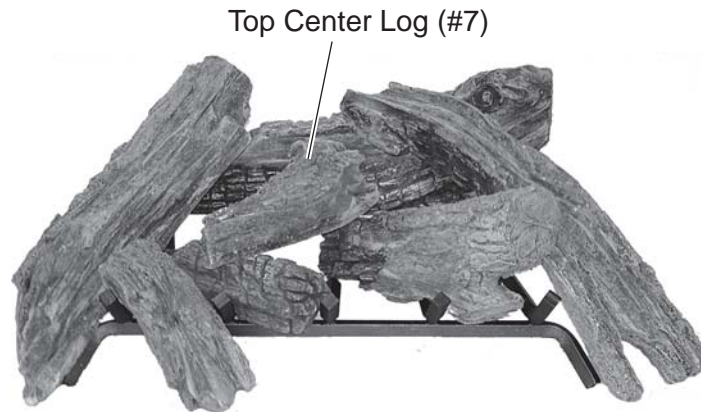

Figure 82 - Resting Center Top Log (#7) Bottom left Log and Back Log
8. Rest Top Center Log #7 on bottom left log #2 and back log #1. *See Figure 82.*